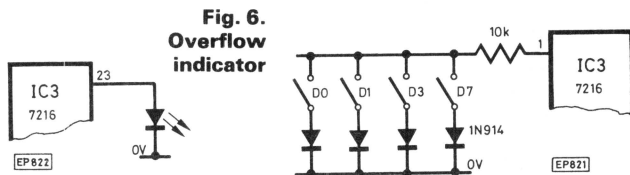

Fig. 6.
- 4) If an l.e.d. is connected between pin 23 and ground, it acts as an overflow indicator (see Fig. 6).